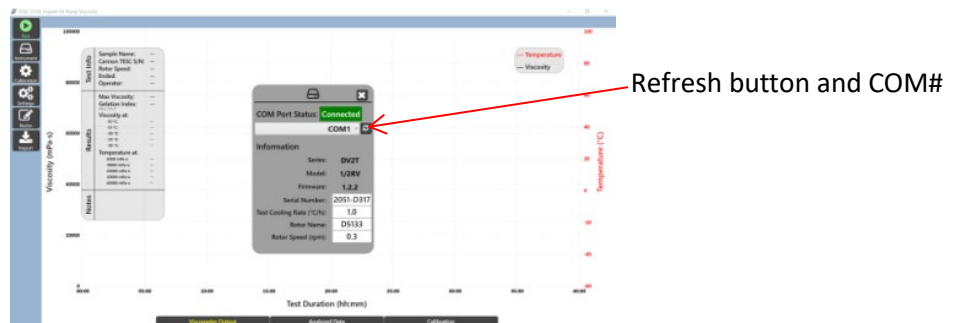

Figure 31: Connected Display on PC
1. On the PC desktop, click on the grey **TESC** icon to open the instrument software. Once opened it  should read **Connected** with a **COM#** in the display box. If there is no **COM#**, press the grey refresh button and the instrument **COM#** should appear. Refer to Figure 31.
Note: For an understanding as to how Gelation Index is found, the software displays a graph with temperature on the x-axis and FDVT (first derivative of viscosity with respect to temperature) on the y-axis. The peak of this curve is the Gelation Index, and is shown in Figure 31.